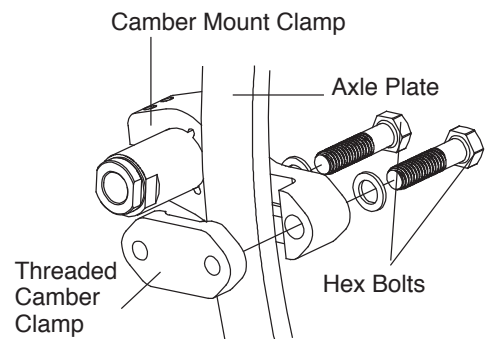

Figure 54
2. Remove the two hex bolts (two on each side of the chair) that secure the camber mount clamp to the vertical axle plate. See Figure 54.
4. Reinstall the two hex bolts that secure the camber mount clamp to the vertical axle plate, making sure all washers are reinstalled in the exact same order as they were originally installed. Initially each hex bolt should be finger-tight. See Figure 54.